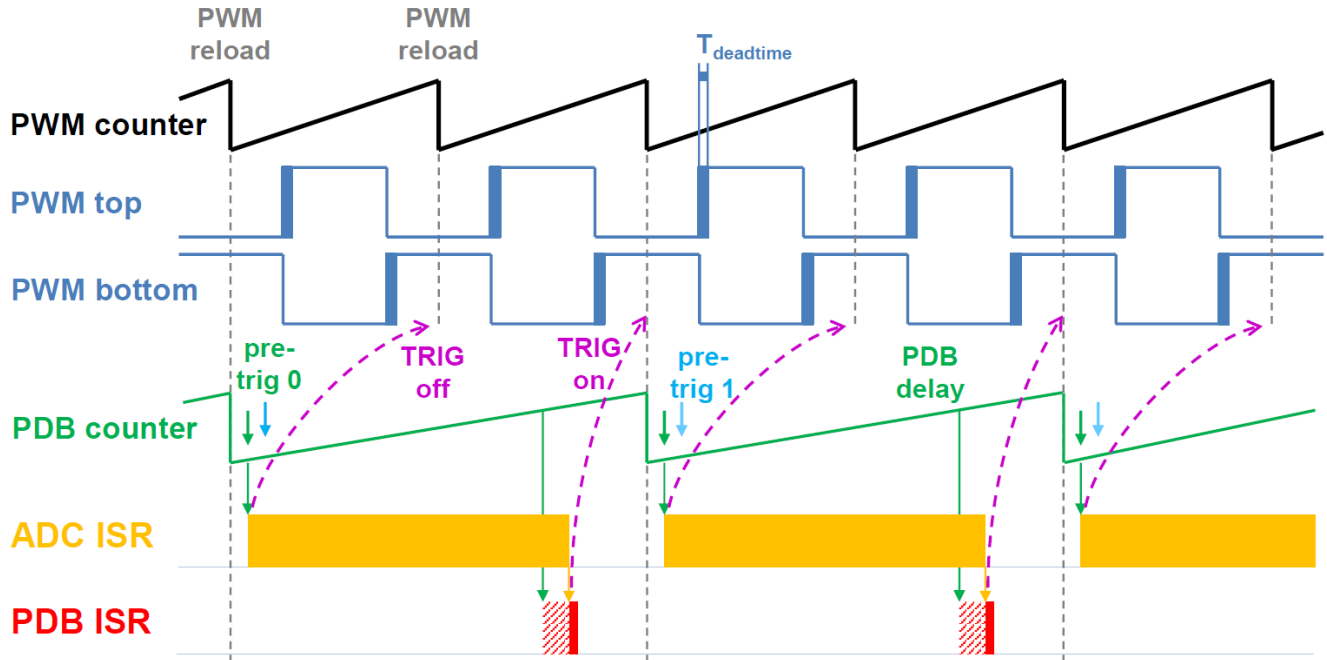

Figure 28. Hardware timing and synchronization on KE1xZ
A correct and precise timing is crucial in motor-control applications. The motor-control dedicated peripherals handle the timing and synchronization on the hardware layer. The timing diagram is shown in Figure 28.
- The PDB Delay interrupt is enabled. This interrupt is generated when the PDB_IDLY is reached. This interrupt enables the FTM_TRIG (see Figure 28).